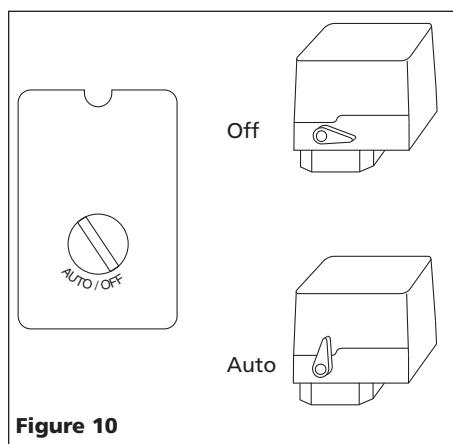

Figure 10
- Turn pressure switch lever or knob to AUTO position and run unit for 30 minutes to break in the pump parts (See Figure 10).